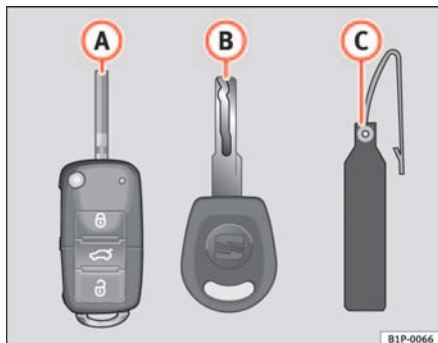

Fig. 62 Set of keys
- one remote control key ⇒ fig. 62 **A** with folding key bit,
Spare keys cannot be issued without the key number on the key tab ⇒ fig. 62 **B**. Therefore:
- Use both keys that have been delivered with the vehicle ⇒ page 99, fig. 62, the key fitted with the remote control  and the normal key .